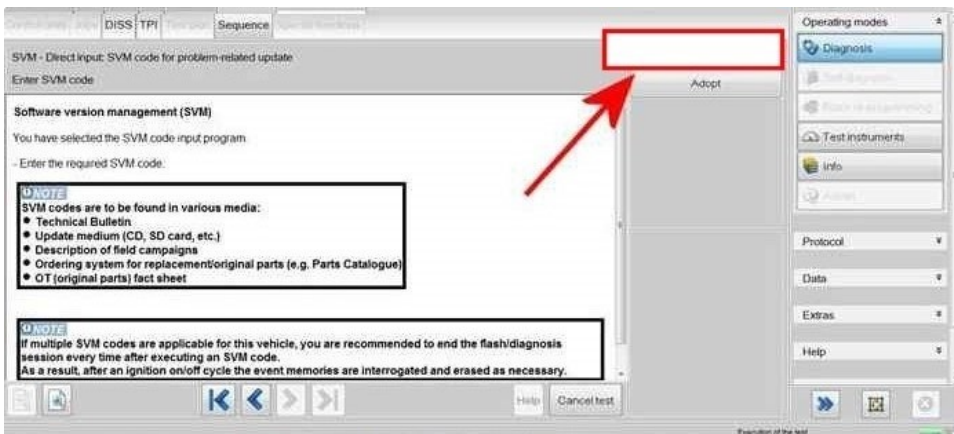

Figure 14
- On the next screen enter the SVM code **371046BLINDZDC01** - Select Adopt (Figure 14)